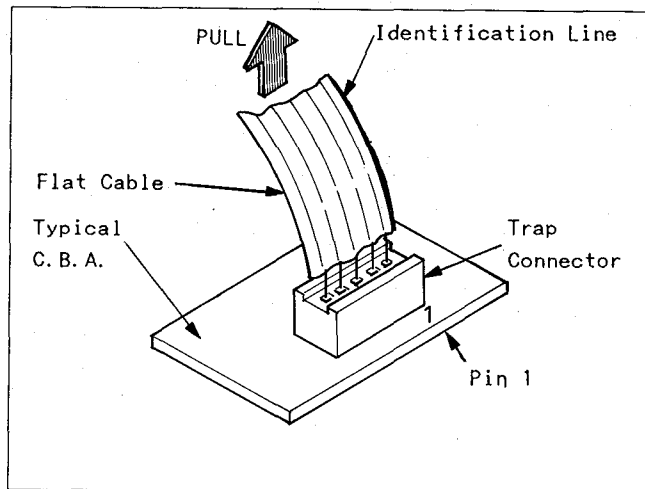

Fig. 4-3
- 1) Pull Flat Cable out minimizing stress by holding it securely to avoid damage of the individual wires as shown in Fig. 4-3.